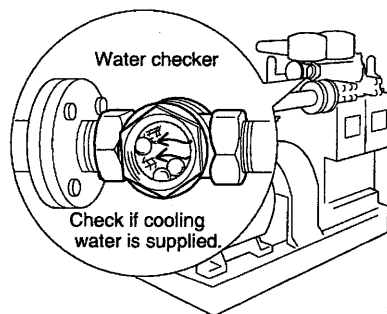

Fig. 22
- (5) Check if the cooling water is supplied by observing the water checker. (Fig. 22)